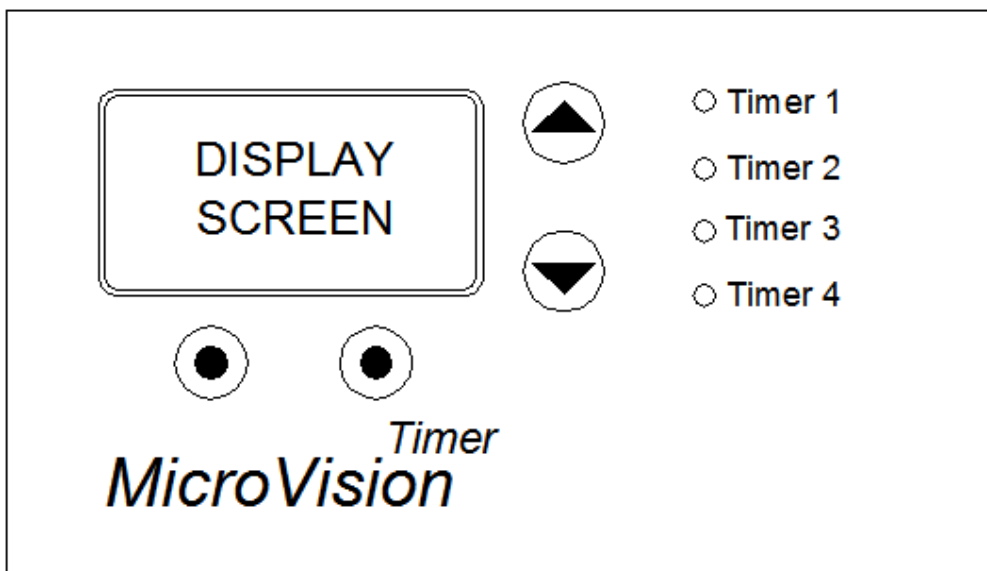

Fig. 6
The MicroVision electronic input circuitry is fuse protected on both the hot and neutral inputs using a replaceable five (5) amp fuse (Fig .6). For additional protection of your instrument, use of a surge protector is recommended.